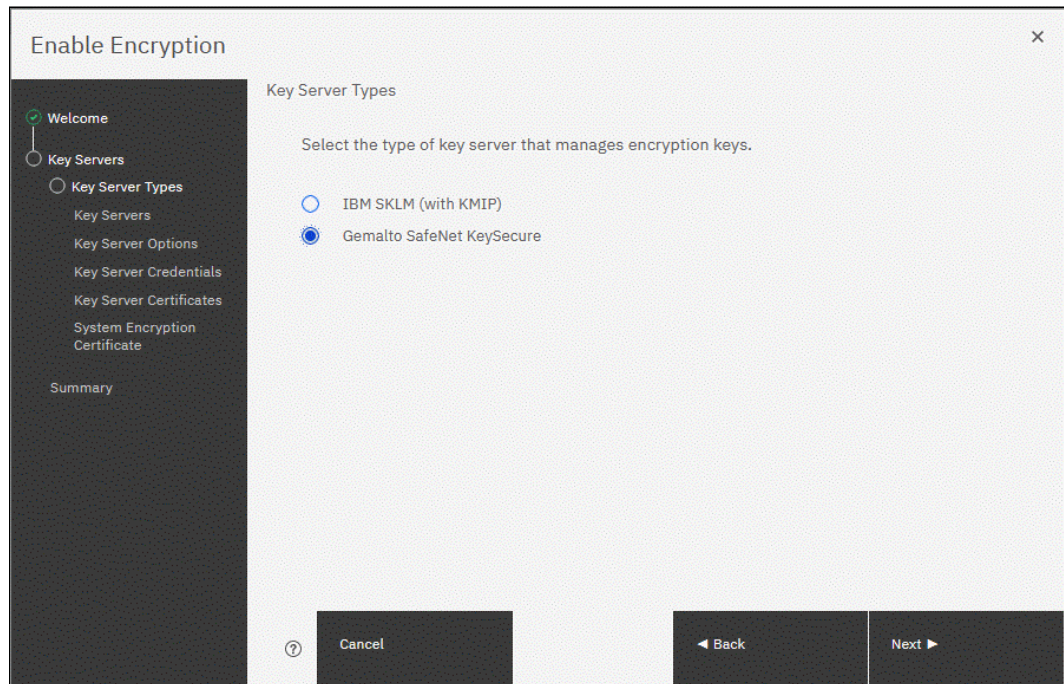

Figure 12-39 Selecting Gemalto SafeNet KeySecure as the key server type
3. In the next window, you can choose between the IBM Security Key Lifecycle Manager or Gemalto SafeNet KeySecure server types, as shown in Figure 12-39. Select **Gemalto SafeNet KeySecure** and click **Next**.